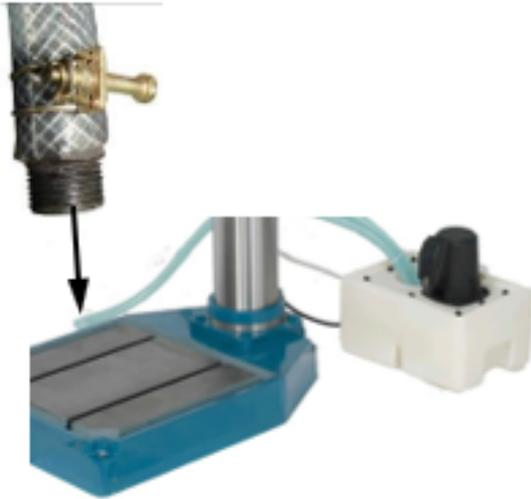

Figure 6-5
6. Locate the coolant tank on the floor. Screw the threaded coupling into the drain of the base (See Figure 6-5) Fill the tank with coolant.